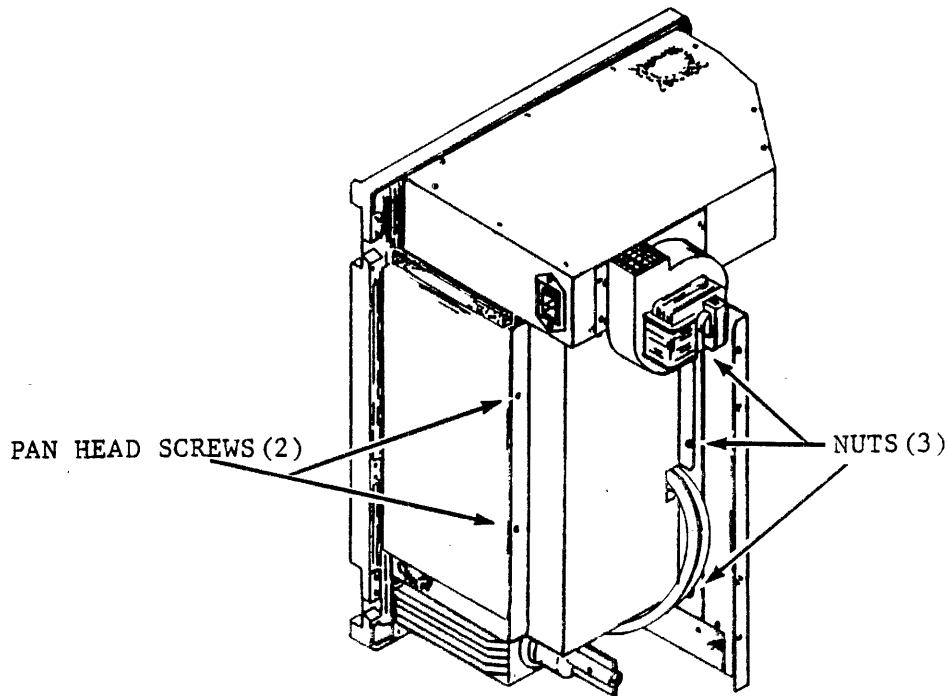

Figure 6-26B. ACOUSTIC SHIELD ASSEMBLY (MOUNTED)
1. Route filter hoses through cut-out on right side of acoustic shield (Figure 6-26B). Insure correct replacement of hoses to filter.